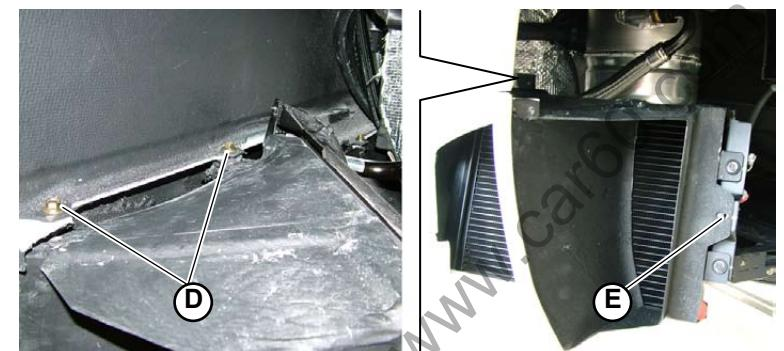

Fig.2
5. Secure the air conveyor onto the side member using the 2 internal screws (D-Fig.2).
6. Tighten the screw (E-Fig.2) to secure the conveyor onto the oil radiator.